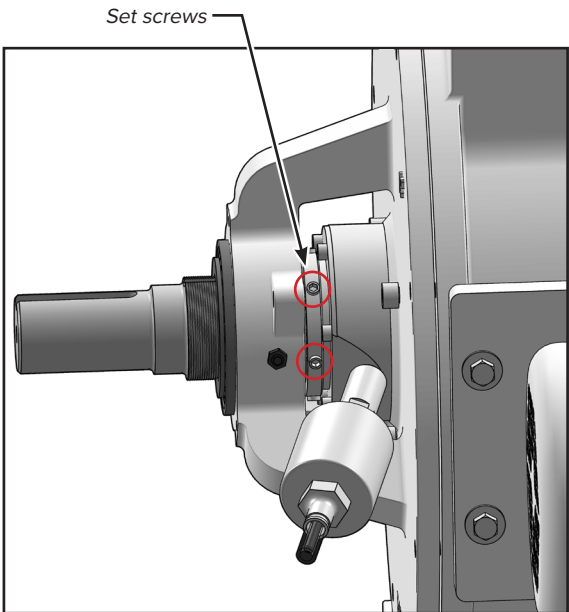

FIGURE 17
- 5. Loosen all set screws (figure 17).
- 18. Once clearances are verified, alternatively tighten the setscrews on the dynamic seal (figure 17).